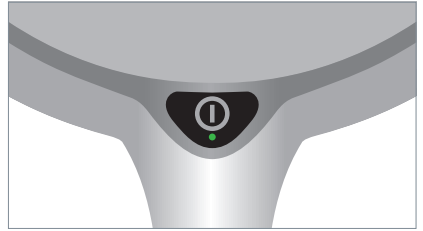

Fig. 7: Switch.
- ▶ Press the switch, see Fig. 7.
- ▶ Press the switch and keep it depressed, see Fig. 7.
- ▶ Press the switch twice in quick succession, see Fig. 7.